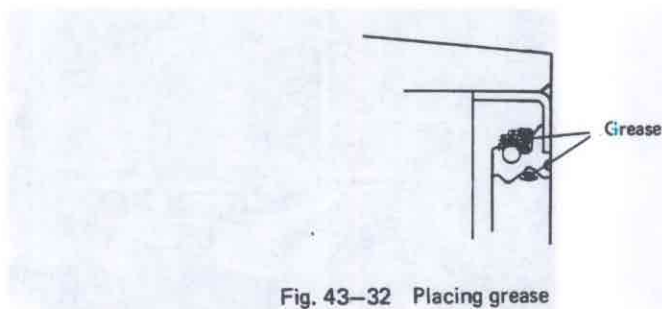

Fig. 43-32 Placing grease
5. Fill the space between the sealing lips and their reverse sides with grease, see Fig. 43-32.